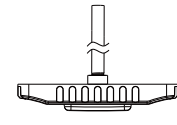

Figure 5
- 2.Screw the fixture to the 3/4"NPT Stem(Figure 5).